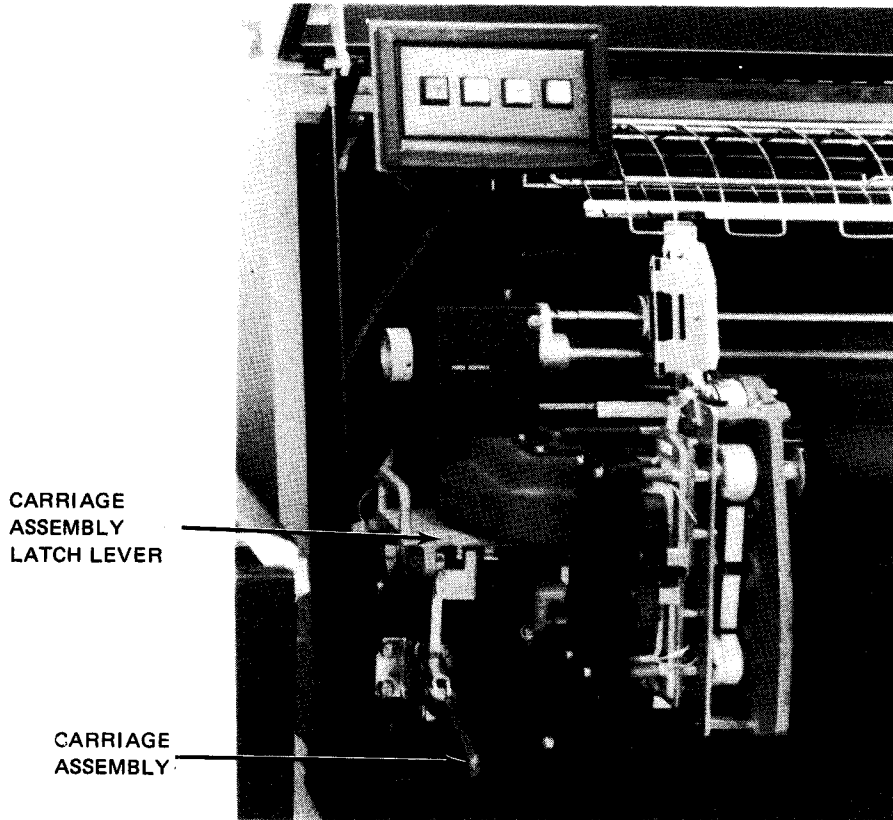

Figure 5-73. Print Carriage Assembly, Closed
5. Release carriage assembly latch by pressing down on the latch lever (Figure 5-73). Swing the carriage assembly fully open; assembly is hinged on its right side (Figure 5-74).